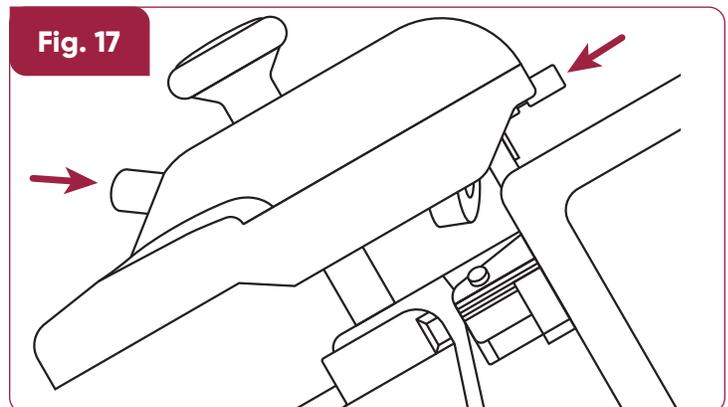

Fig. 17
8. Press both buttons simultaneously and hold for 3-4 seconds, then release to dress the blade's edge. (Fig. 17)